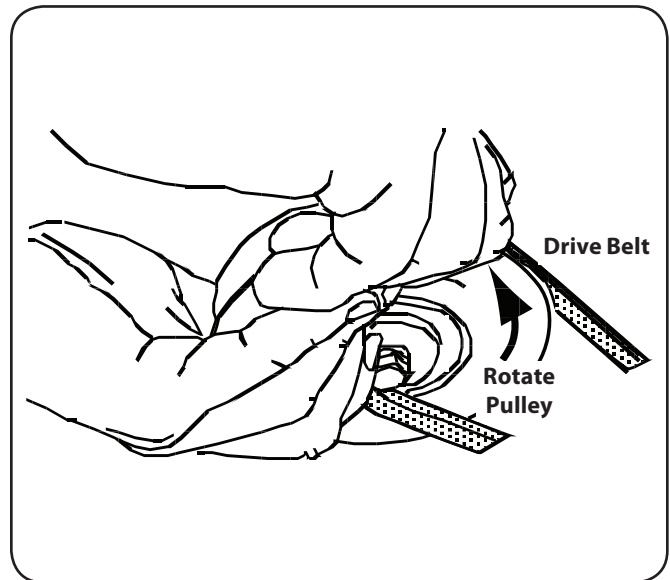

Figure 7-8
11. Place the belt into the engine pulley. See Figure 7-8.